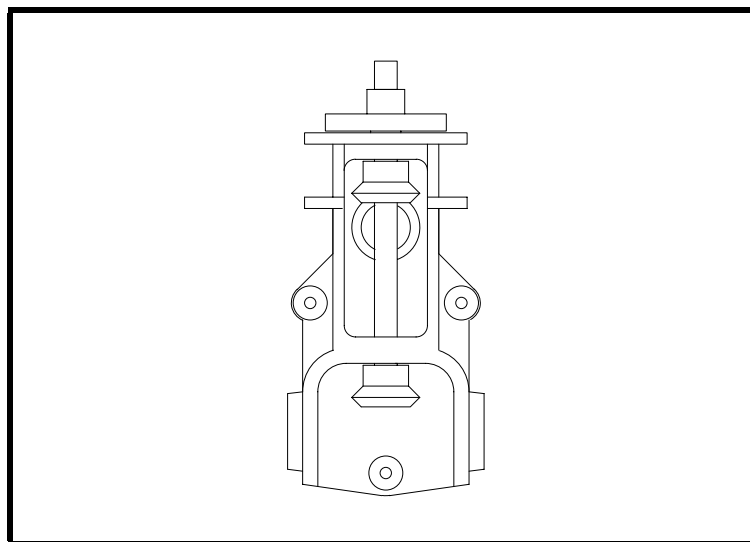

Figure 35
- ❑ Slip the lower P/N 520-7 miter gear and P/N 520-3 spur gear on 520-6A vertical shaft as shown in Figure 35. These two gears must have a snug fit against the inner race of the bearings, since this is what holds the gears in proper alignment. Do not drill for the roll pins.